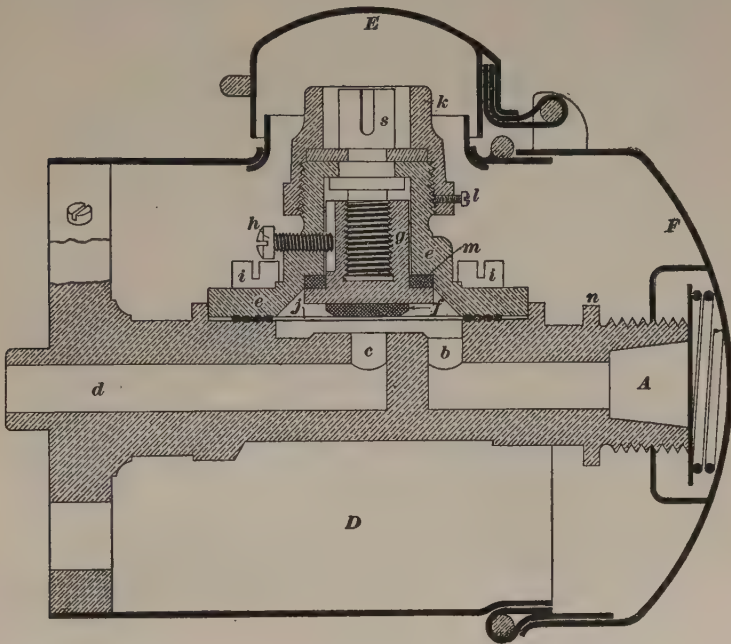

FIG. 7
7. The filling valve used on the cars is shown in Fig. 7, a sectional view of the valve and its cover being given. Gas is admitted from the main supply pipe through a hose connection made at A . The gas passes along the passage up through b , and if the valve f is off its